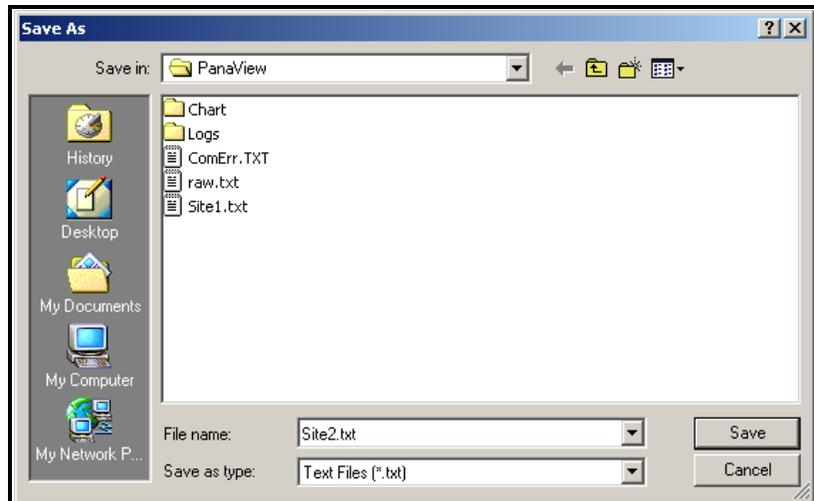

Figure C-13: Save As Window
To *save* the raw signal, click *Save*. A window opens similar to the one shown in Figure C-13 below. Enter the desired name, and click *Save* to save the signal as a text file.
2. Click *Save Site to PC*. A window opens similar to Figure C-13 on page C-11.
1. Highlight the site in the left pane. (See Figure C-13 on page C-11.)